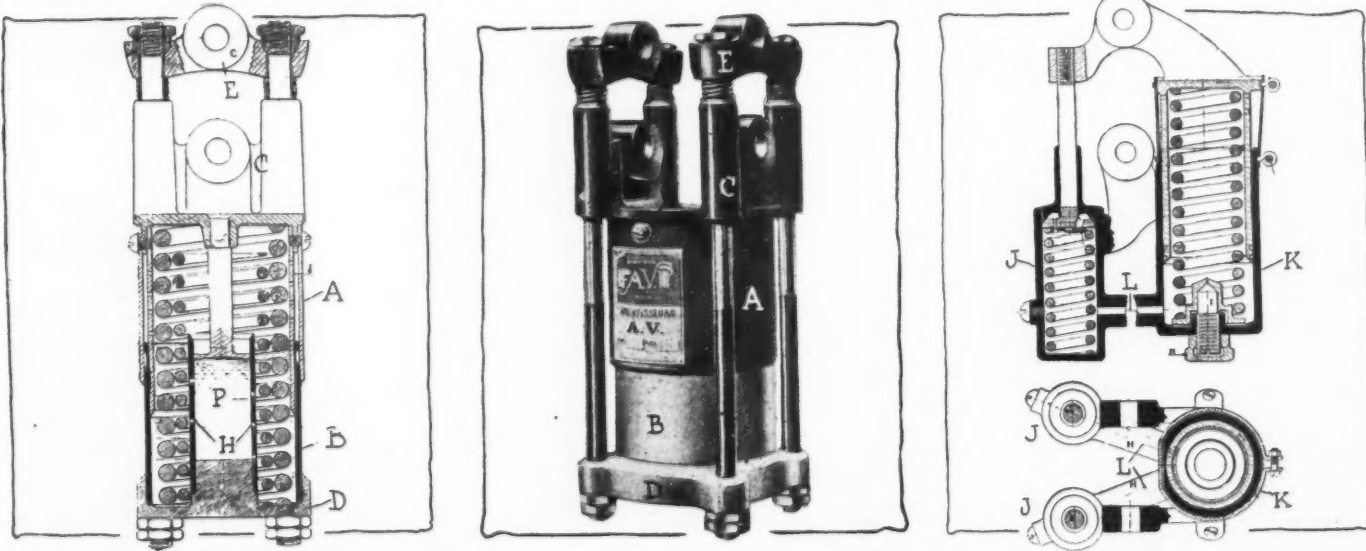

Fig. 2—External and sectional views of the A.V. shock absorber. The section at the right shows the type for front springs
**A. V. Shock Absorber**—The latest device for producing comfortable riding in the automobile is shown in Fig. 2. This is a French invention just being introduced to the American public by the Hudson Export & Import Co., 140 West Forty-second street, New York City. It operates on a combination of spring and hydrostatic principles.
A. V. shock absorbers are also made for attachment to the front springs. This type is shown at the right, Fig. 2. In this there are three separate cylinders arranged so that the piston rods of the two smaller cylinders pass at either side of the spring. Connection between the lower ends of the small cylinders J and the main cylinder K is made by holes L of such a diameter that similar retarding effect of oil flow is caused to that produced in the case of the rear spring type.